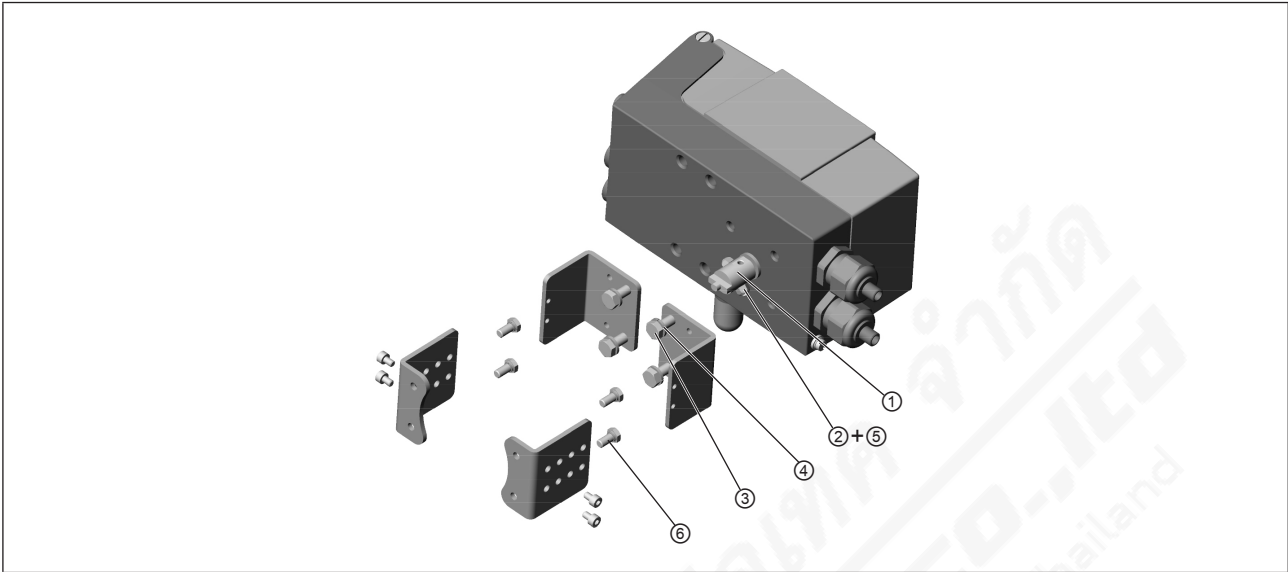

Figure 23: Attaching the assembly bridge
- Attach the assembly bridge to the SideControl using the 4 hexagon bolts ③ and the spring lock washers ④ (see “Figure 23”).